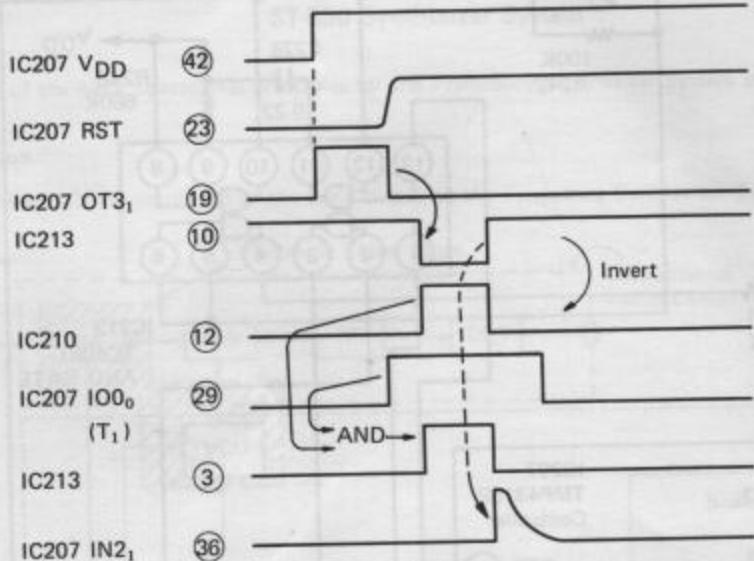

Figure 5.
- (1) When the power is first switched on, V_{DD} is established immediately on pin ④2 of IC207.
- (2) The voltage applied to pin ②3 is delayed by the R224/C218 time constant.
- (3) During this period, all outputs become "H" level, resulting in the voltage at OT3, ⑯ changing as shown in Fig. 5.
- (4) The pin ⑯ output is applied to IC213 where a slightly delayed signal is obtained from the 2 AND GATE circuits and appears at output pin ⑩ of IC213.
- (5) This output signal is passed through IC210 where its polarity is inverted prior to being returned to one of the gates in IC213.
- (6) The timing signals being issued from pin ⑨ of IC207 are applied to one of the gates in IC213 resulting in an AND output.